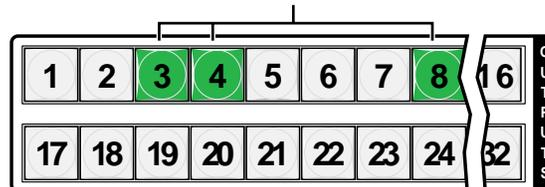

Figure 3-13 — Select an input
3. Press and release the input 5 button (figure 3-13).